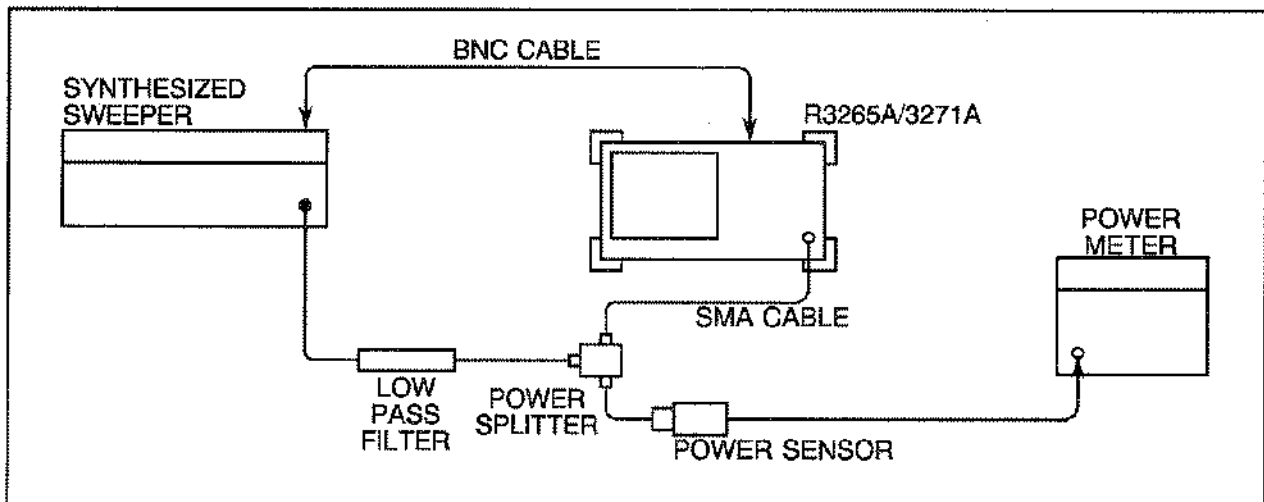

Figure 4-11 Second Harmonic Distortion Test Setup
(1) Zero and calibrate the power meter. Rotate the CAL FACTOR switch to the power sensor's 1.5 GHz calibration factor.
(2) Connect the equipment as shown in Figure 4-11.
(3) Press the **INSTR PRESET** key on the TR4515. Set the TR4515 controls as follows:
- (13) Connect the equipment as shown in Figure 4-11.
- (14) Rotate the CAL FACTOR switch to the power sensor's 1.9 GHz calibration factor.
- (15) Set the TR4515 **POWER LEVEL** key for a 0 dBm ± 0.1 dB reading on the power meter.
(16) Set the R3265A/3271A center frequency to 1.9 GHz and span to 1 kHz.